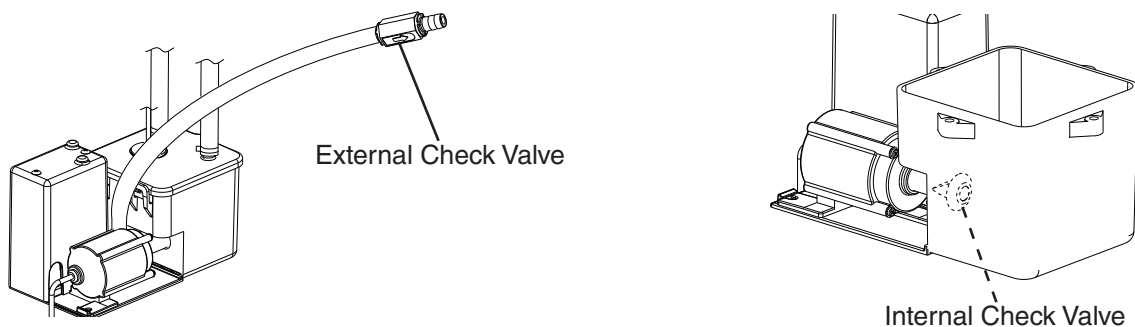

Fig. 6
- DP has an external or internal check valve. If DP contains an internal check valve, do not install an external check valve and vice versa. See Fig. 6.